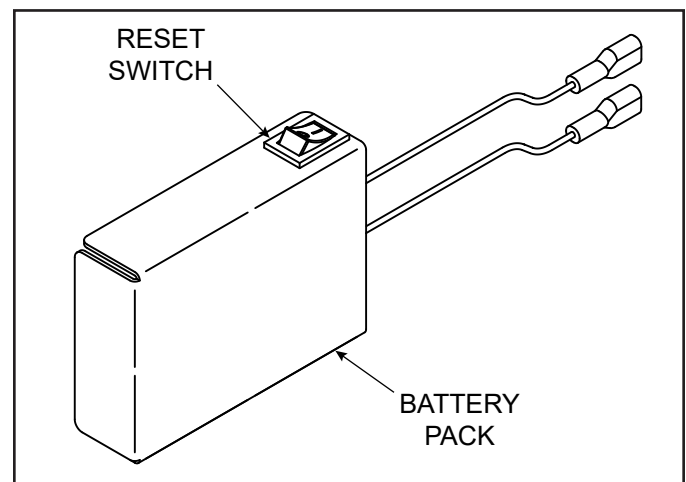

Figure 8.3 Battery Pack Reset Switch
1. Locate the reset switch on battery pack cover. See Figure 8.3.